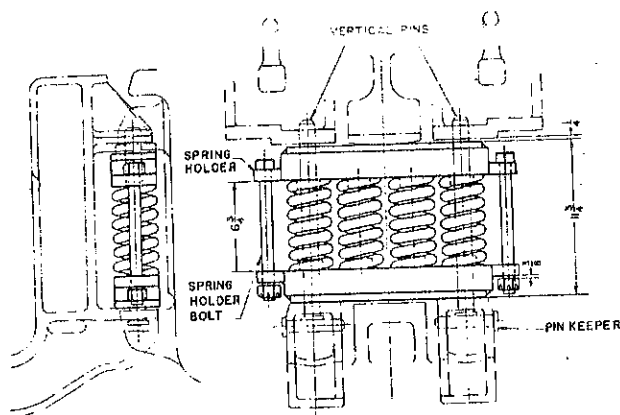

Fig. 30 - TRACTION MOTOR NOSE SUPPORT
4. Remove all motor nose suspension spring nests as follows. See Fig. 30.